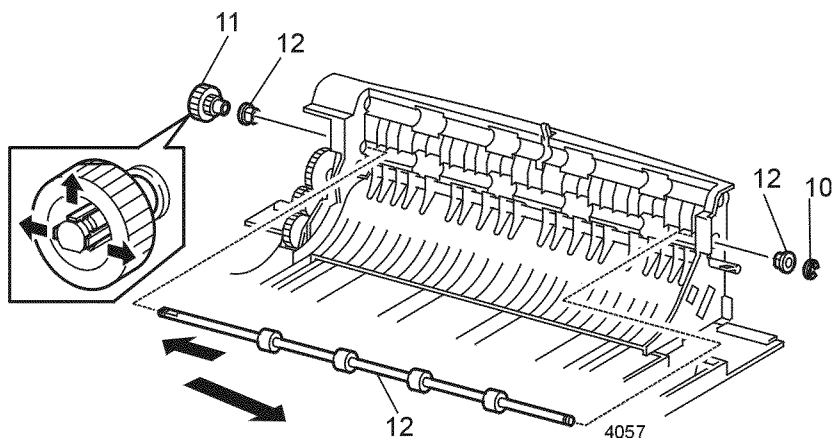

Figure 4 Lower Exit Roll Assembly
10. Remove the E-ring that secures the right end of the Lower Exit Roll Assembly (Figure 4).
11. Release the three locking tabs and remove the Gear Z22 from Lower Exit Roll Assembly (Figure 4).
12. Remove the left and right bearings from the Exit Roll (Figure 4).
13. Move the Exit Roll Shaft to the left until the right end is free of the Rear Cover (Figure 4). Remove the Exit Roll.